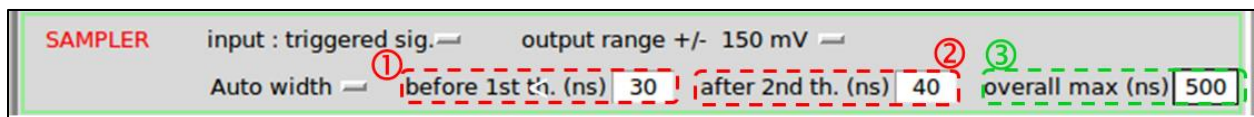

Figure 30: “Auto width” parameters interface.
In automatic mode, the number of samples acquired adjusts to the pulse duration. The SAMPLER frame includes all samples whose value is over the trigger threshold, in addition to a duration before the first sample (“before 1st th. (ns)”, Figure 30 ①) and a duration after the last sample (“after 2nd th. (ns)”, Figure 30 ②). If the number of samples in the frame is odd, the sum of these three durations is increased by 2 ns.
Since the pulse duration is expandable, especially if there is piled-up, a maximum gate duration, called “overall max (ns)” (Figure 30 ③), must be set, which must not be exceeded. This value is less than or equal to 1428 ns.